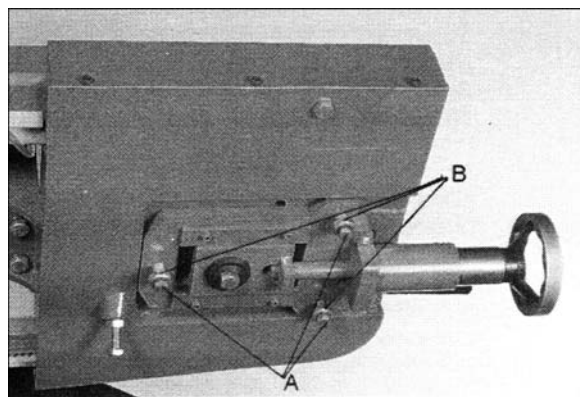

Figure 8
4. Loosen the three bolts (A, Figure 8) located on the top of the tracking nuts.
5. Tracking adjustment is accomplished by either loosening or tightening three adjusting nuts (B, Figure 8).
7. Tighten locking bolts (A) once proper tracking is completed.